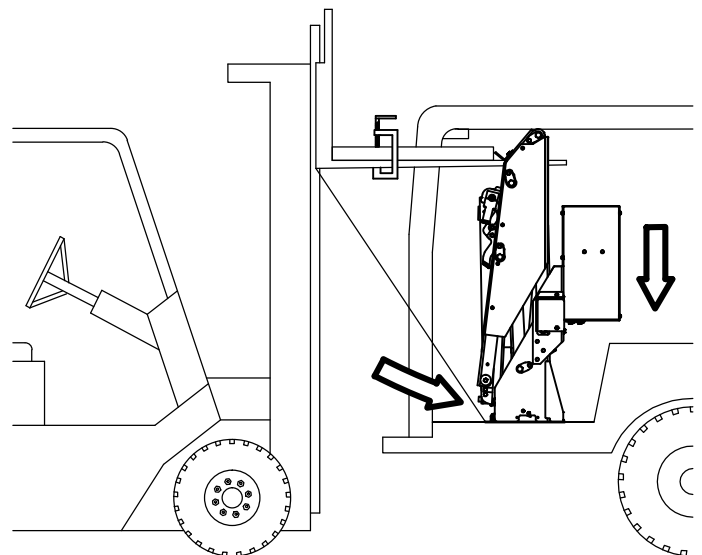

Figure 15: Carefully release tension on the adjustable strap until the liftgate hangs freely. Lower liftgate onto shims.
7. Carefully **Release** tension on the adjustable strap until the liftgate hangs freely (Figure 15).